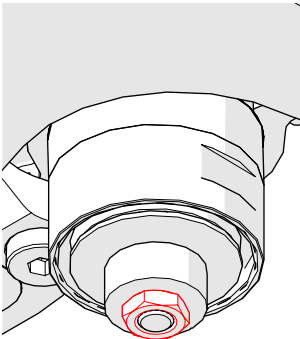

Fig. 192 - Unscrew the nut
2. Using a 13 mm tool, unscrew the nut from the idler shaft (Fig. 192).